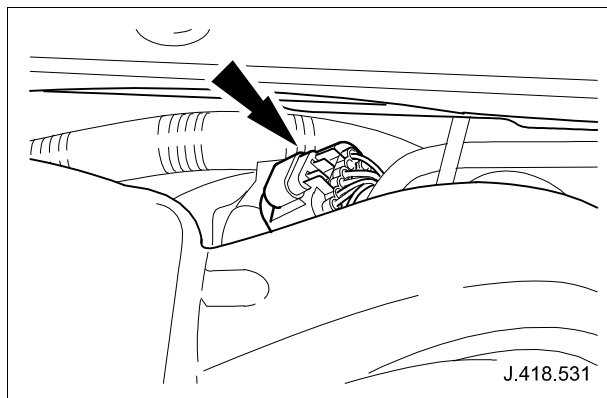

Fig. 18
- 4.6 Check in-line connector from engine harness to injector harness for signs of water ingress. Ensure the connectors are pushed fully home and are not damaged i.e. bent/backed-out. Where available, utilize opposing pins from the harness repair kit and insert into populated pins to ensure a good/tight fit is achieved. (See Fig. 18)